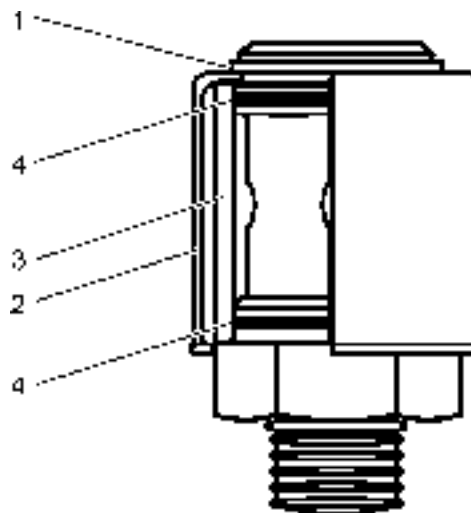

Fig. 5.25. Hydraulic Reservoir Breather
3. Remove the breather (Fig. 5.25) from the reservoir. Remove snap ring (1), cover (2), element (3) and clean in a nonflammable commercial solvent. Dry thoroughly. Check O-rings (4) for wear or deterioration. Replace if necessary. Reinstall the filter (3) and the cover (2). Secure with the snap ring (1). Reinstall the breather and the filler cap.